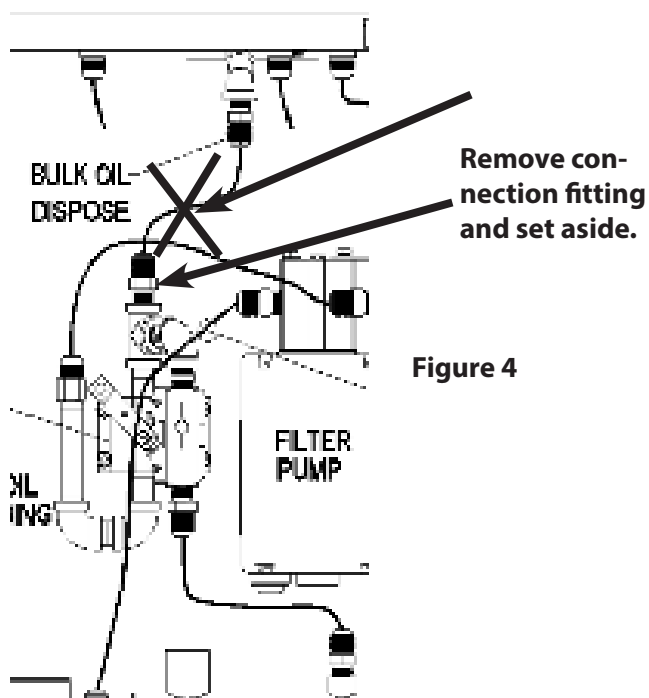

Figure 4
9. From the rear of the fryer, remove and discard the flexline indicated with the X (see Figure 4) between the waste assembly manifold and the bulk waste connection on the rear of the fryer.
10. Remove the flexline connection fitting shown in Figure 4 from the waste assembly and set aside.